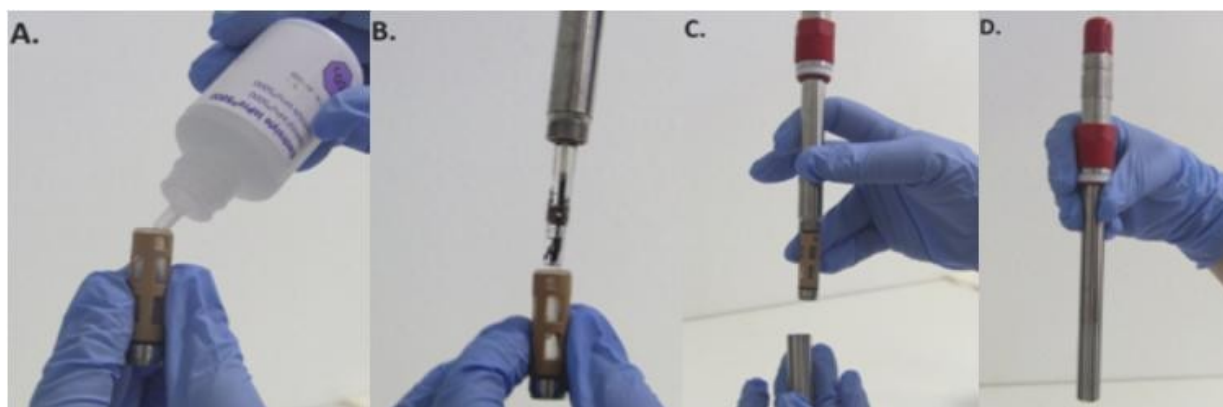

Fig. 25: Assembly of the CO₂ electrode
- Assemble the electrode according to the manual provided by the electrode manufacturer. Individual steps of the assembly are schematically shown in Fig. 25.